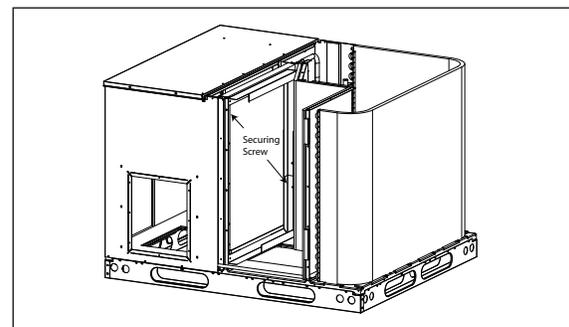

Figure 3a. Internal filter Rack Location
2. To install media, slide filter between guide channels of filter rack. The first filter will easily drop into place. (Check to insure that the bottom of filter is within the channels of the rack.) Insert the second media in the same manner as the first. (Again, check to insure that the media is captured by the channels of the filter rack.) **See Figure 3a.**